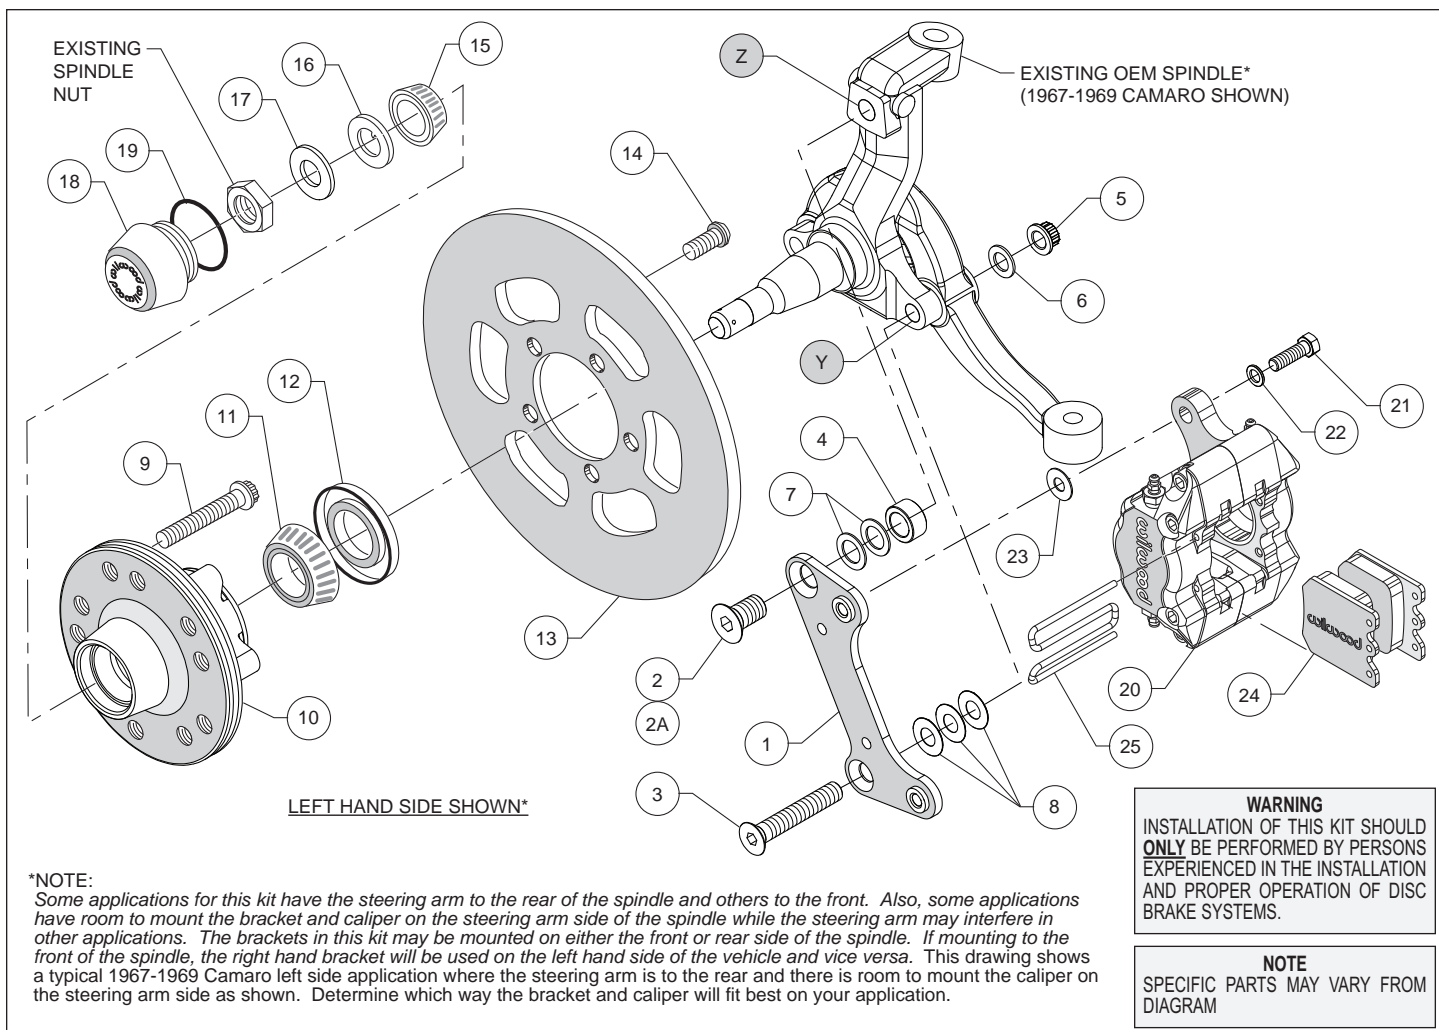
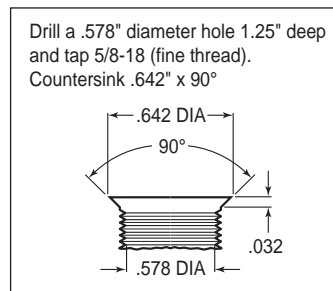
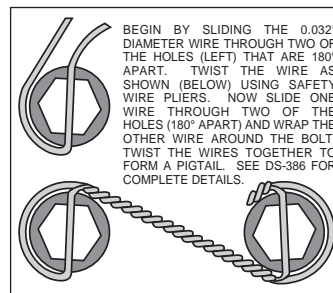
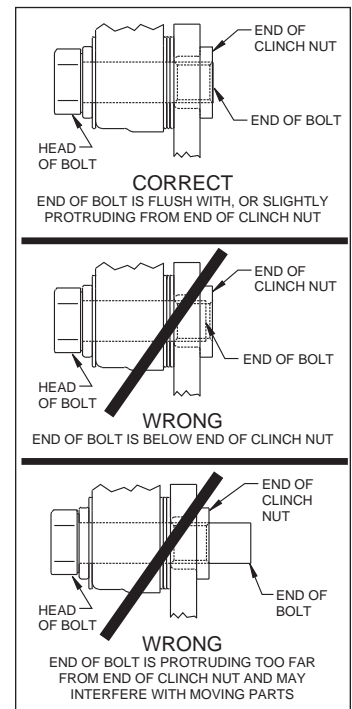

Figure 1. Typical Installation Configuration
Figure 3. Drill and Tap Detail
Figure 4. Safety Wire Diagram
Figure 5. Clinch Nut Engagement Diagram
Assembly Instructions (numbers in parenthesis refer to the parts list, on the preceding page and Figure 1): **CAUTION:** All mounting bolts must fully engage clinch nuts. Be sure to check that all bolts are either flush or protruding through flanged side of clinch nut after shimming, Figure 5.
•**NOTE:** Some applications for this kit have the steering arm to the rear of the spindle and others to the front. Also, some applications have room to mount the bracket and caliper on the steering arm side of the spindle while the steering arm may interfere in other applications. The brackets in this kit may be mounted on either the front or rear side of the spindle. If mounting to the front of the spindle, the right hand bracket will be used on the left hand side of the vehicle and vice versa. Figure 1 shows a typical 1967-1969 Camaro left side application where the steering arm is to the rear and there is room to mount the caliper on the steering arm side as shown. Determine which way the bracket and caliper will fit best on your application.
•**NOTE:** Some spindles in this year range may require the following modifications (reference Figure 1 and Figure 3): Top anchor pin hole (Z) must be drilled and tapped to the dimensions as outlined in Figure 3. The lower bolt hole (Y) in the spindle used to mount the new caliper bracket, and the mating steering arm hole, must be enlarged to .50" by drilling. It is recommended these modifications be performed by a qualified machinist.
•Install wheel studs (9) into the hub (10), Photo 1. Torque to 77 ft-lb. **NOTE:** There are two five lug patterns in the hub (5 x 4.50 and 5 x 4.75). Ensure the correct hub stud pattern is being used to fit the wheel application.
•Pack the large inner bearing cone (11) with high temperature disc brake bearing grease (available from your local auto parts store) and install into the backside of the hub (10), Photo 2.
•Install the grease seal (12) by pressing into the backside of the hub (10), flush with the end of the hub, Photo 2.
•Orient the rotor (13) and the hub (10) as shown in Figure 1. Attach the rotor to the hub using bolts (14). Using an alternating sequence, apply red *Loctite*® 271 to the threads, and torque to 45 ft-lbs.
•**Disc Brake Spindle Application Only:** Follow the instructions below, but instead use bolt (2A), spacer (4), and two .050" thick shims (7) in the upper bolt hole location, Figure 1.
•Orient the caliper mounting bracket (1) as shown in Figure 1 and Photo 3, and install using bottom bolt (3), washer (6), and nut (5), Figure 1. Initially place three .032" thick shims (8) between the bracket and spindle. Install the upper bolt (2). Temporarily tighten bolts. **NOTE:** *The bracket must fit squarely against the mounting surfaces on the spindle.* Inspect for interference from casting irregularities, machining ridges, burrs, etc. Temporarily install the new hub and rotor assembly. Check that the bracket is aligned parallel to the rotor, Photo 4. If not, adjust by adding or subtracting shims (8) on the lower bolt between the bracket and spindle, Figure 1. Once the bracket alignment is correct, remove the upper bolt (2 or 2A), apply red *Loctite*® 271 to the bolt threads, and torque to 120 ft-lb. Torque the lower lock nut to 65 ft-lb.
•Pack the small outer bearing cone (15) with high temperature disc brake bearing grease and install into hub (10). Final install the hub/rotor assembly onto the spindle. Secure using spindle washer (16) and OEM spindle nut. Adjust bearings per OEM specifications. Install saved OEM nut lock (if any) and a new cotter pin (not included). **NOTE:** *Because of a tolerance variation among spindles, it may be necessary to install a shim washer (17) between the spindle washer (16) and the spindle nut if the spindle nut will not tighten down all the way.*
•Screw dust cap (18) into hub (10). Friction created by the o-ring (19) on the dust cap keeps it from unscrewing. **NOTE:** *The O.D. of the existing OEM spindle washer may be larger than the I.D. of the dust cap not allowing it to seat against the hub face. Therefore, use the spindle washer (16) supplied with the kit instead of the OEM washer.*
•**NOTE:** *Please reference the caution statement at the beginning of the assembly instructions.* Mount the caliper (20) onto the caliper mounting bracket (1) using bolts (21) and washers (22), as shown in Figure 1. Initially place one .035" thick shim (23) on each bolt between the caliper and the bracket. Temporarily tighten the mounting bolts and view the rotor (13) through the top opening of the caliper. The rotor should be centered in the caliper. If not, adjust by adding or subtracting shims (23) between the bracket and the caliper. Always use the same amount of shims on each of the two mounting bolts. **NOTE:** *The end of each bolt must be flush with or slightly protruding from the head of the clinch nut, as shown in Figure 5.* If necessary place spare shims (23) between washer (22) and caliper mounting ear to achieve the proper clinch nut engagement. Once the caliper alignment and clinch nut engagement are correct, remove the bolts one at a time, apply red *Loctite*® 271 to bolt threads, and torque to 40 ft-lb. For an added measure of security, the bolts may be safety wired using standard 0.032 inch diameter stainless steel safety wire as shown in Figure 4. Refer to Wilwood's data sheet DS-386 (available at www.wilwood.com/Pdf/DataSheets/ds386.pdf) for complete safety wire installation instructions.
•Install the disc brake pads (24) into the caliper, with the friction material facing the rotor (13), and secure in place using pad clip retainer (25).